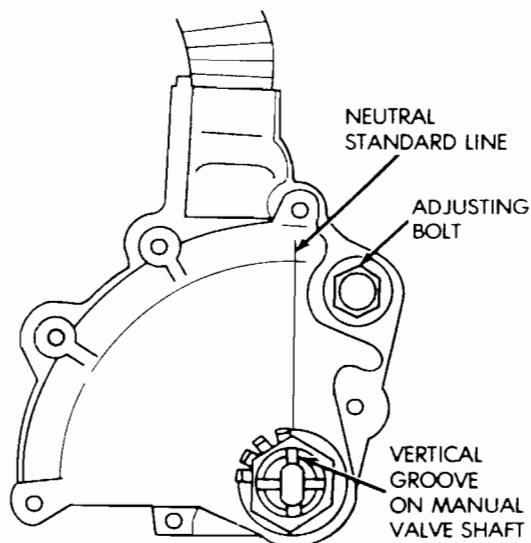

Fig. 5 Neutral Switch Adjustment
- (1) Disconnect shift linkage rod from shift lever on left side of transmission.
- (2) Rotate manual shift lever all the way rearward. Then rotate lever forward two detent positions to Neutral.
- (3) Install switch on manual valve shaft and install switch adjusting bolt finger tight. Do not tighten bolt at this time.
- (4) Install tabbed washer on manual valve shaft and install switch attaching nut. Tighten nut to 6.9 N•m (61 in-lbs) torque but do not bend washer lock tabs over nut at this time.
- (5) Verify that transmission is in Neutral.
- (6) Rotate switch to align neutral standard line with vertical groove on manual valve shaft (Fig. 5).